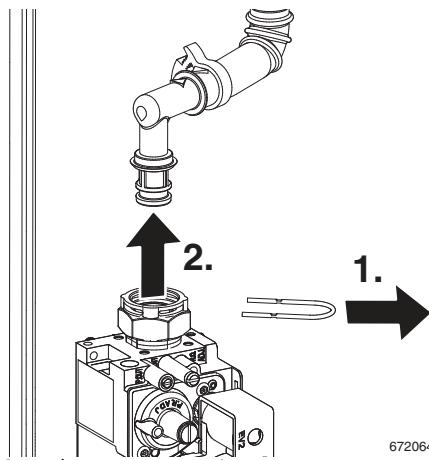

Fig. 75 Gas valve upper connection
- 1. Refer to figure 75 and remove the wire clip from the gas valve outlet.
- ▶ Remove wire clip from gas valve outlet then pull gas pipe free from the gas valve (see figure 75).